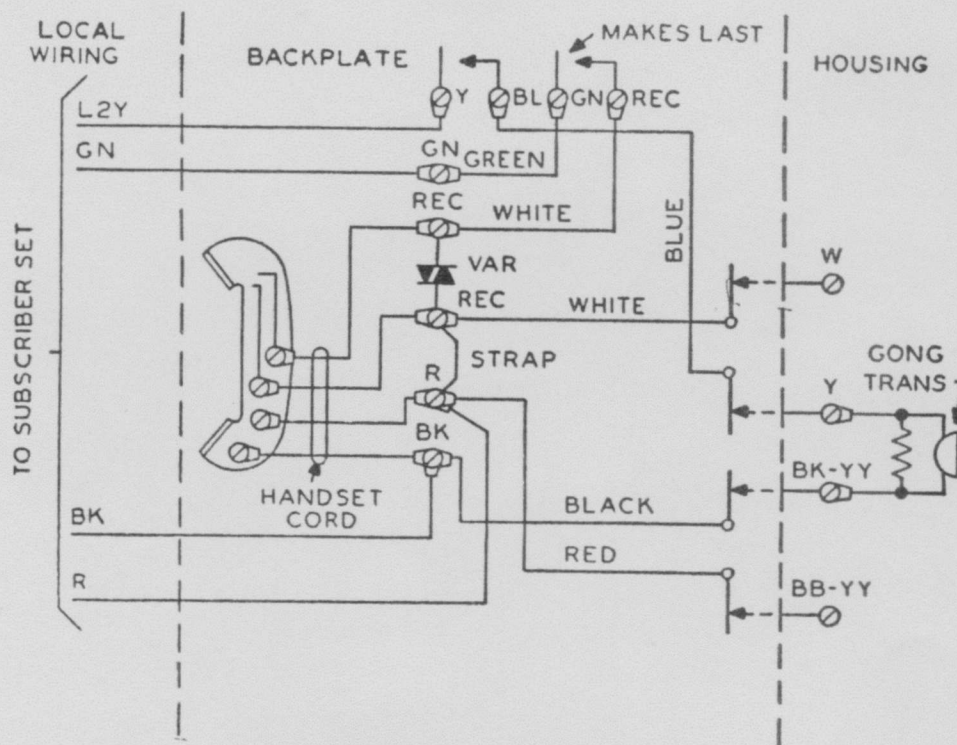

Fig. 5—152C or D and 164C or D Coin Collectors—Antisidetone Stations
3.01 The coin collectors shown in Figs. 5 and 6 may be used with 634Y or 634YD subscriber sets. A 634YD subscriber set should be used when the coin collector is equipped with an F-type handle, a 706A receiver, or a 37A varistor. Only the 634YD subscriber set should be used with the coin collectors shown in Figs. 8, 10, and 11 at local battery talking, common battery signaling stations.